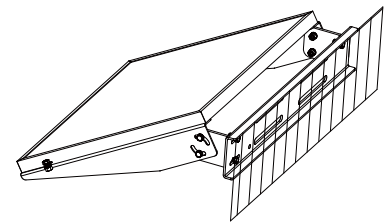

figure 2
**Step3.** Place PV module and mount assembly on mounting surface in the exact place to be installed. See **figure 2**. Use at least 4 fastening points. Use four M8 bolts, washers, lock washers and nuts if possible. Otherwise use wood screws, sheet metal screws, anchors, or molly bolts ( not included ).